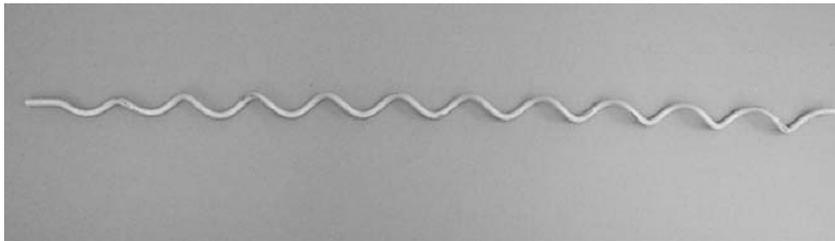

Figure 10 – FIBERLIGN Dielectric Dampner
10.1 The FIBERLIGN Dielectric Dampner (Figure 10) is a spiral vibration dampner used to reduce aeolian vibration in *PowerGuide* cables. Aeolian vibration is low magnitude, high frequency cable vibration that can cause fatigue failure of cable support hardware and in extreme cases may cause cable damage or failure.